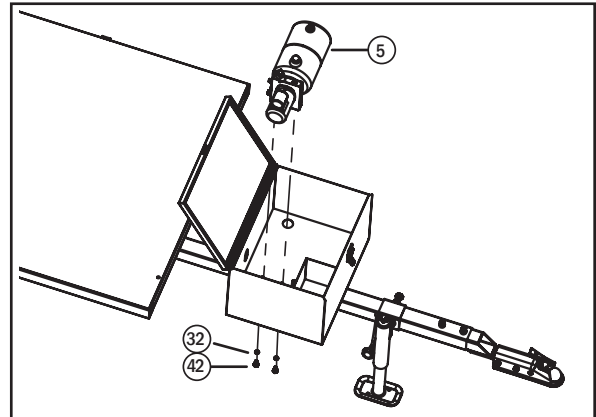

Fig. 12
Step 15: Install the Hydraulic Pump. Install the Hydraulic Pump (5) into the Hydraulic Storage Box (6) with the pump located behind the battery and oil tank on the opposite side as shown in Fig. 12. Align the two holes and install the M10 x 40 Bolts (42), and M10 Nut (32), from the bottom. Use a torque wrench to tighten these between 30 to 35 ft-lbs (40 to 48 Nm).